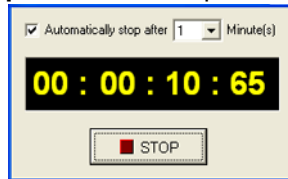

Figure 4-23: Nozzle Pressure Test Stop Button
- f. Click **Stop** to end the high-pressure pump test (Figure 4-23).
- d. Click **Stop** to end the Water and Abrasive Test (Figure 4-23).